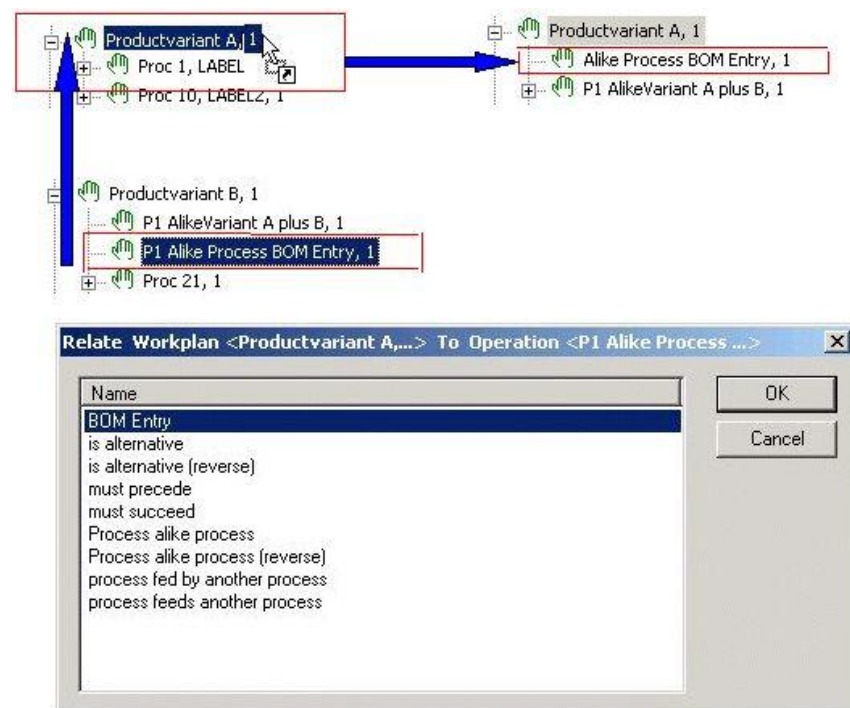

Figure 213: Marking Processes of the same Type via BOM Entry
- 4) Click the **OK** button to confirm. The process is added to this process graph as a reference. *Please refer to the Figure 213.*